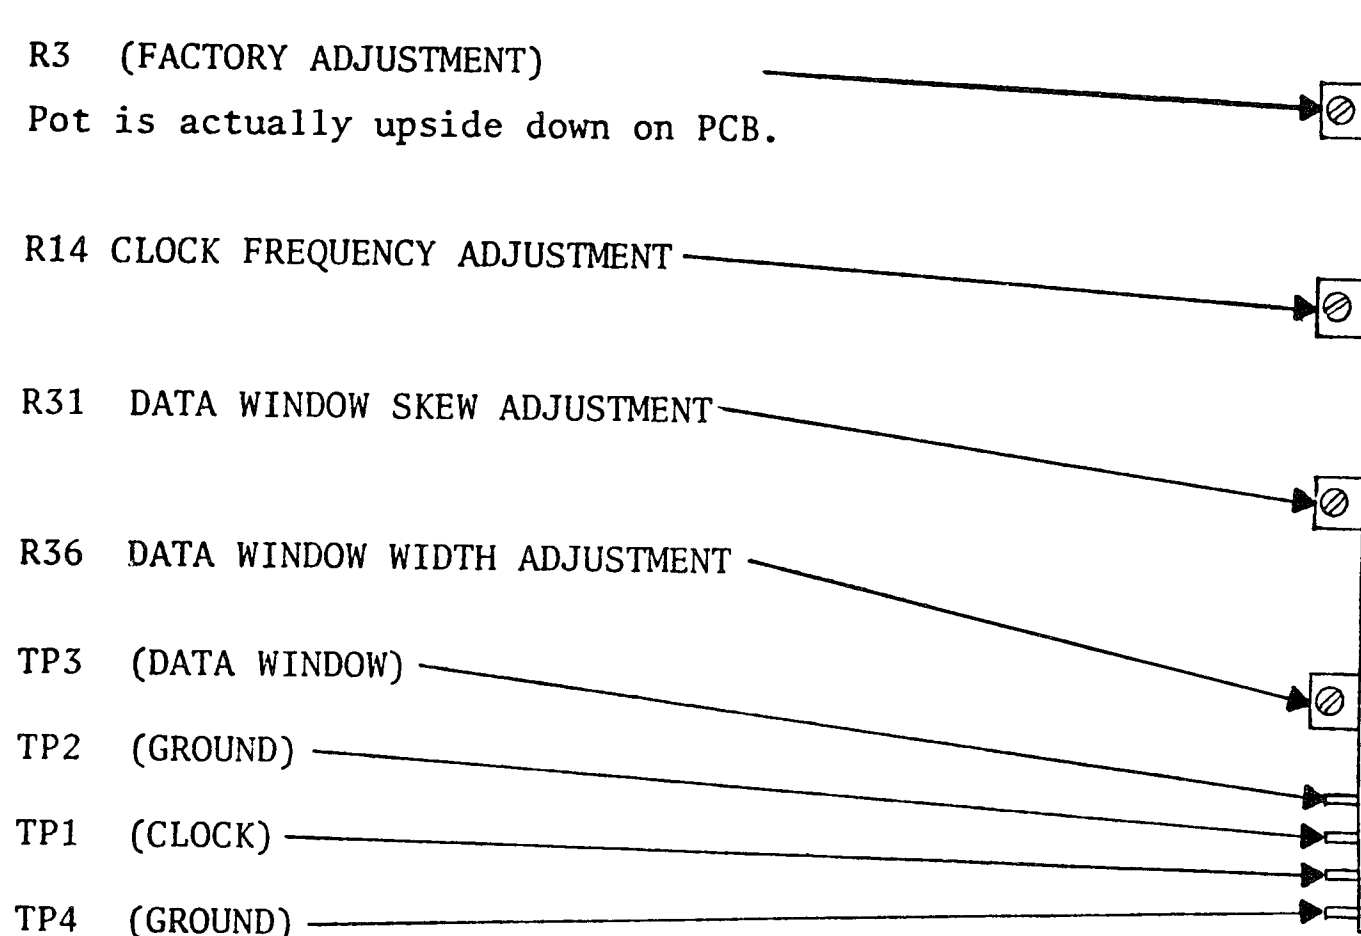

Figure 3-5. Data Separator and Test Point Location (End View)
7. Manually position the carriage slowly away from the spindle until the ready light goes out (the head-load area). The clock is now free-running, having no dibit signal to control the oscillator. Adjust R14, if necessary, to set the free-running period to approximately 103 nanoseconds (Figure 3-5).
15. Change the scope display to chop sweep mode and connect the channel 2 input to TP3 (data window). (See Figure 3-5).